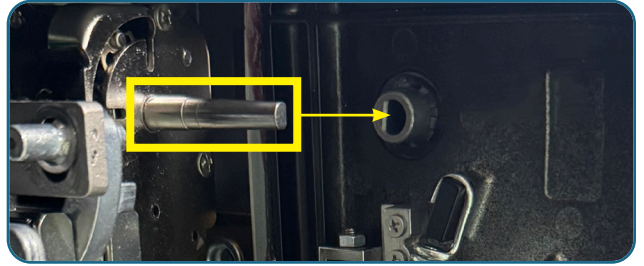

Fig. 4
A. The red deadbolt knob slides over the deadbolt post so that it operates the deadbolt. (**Fig. 4**)